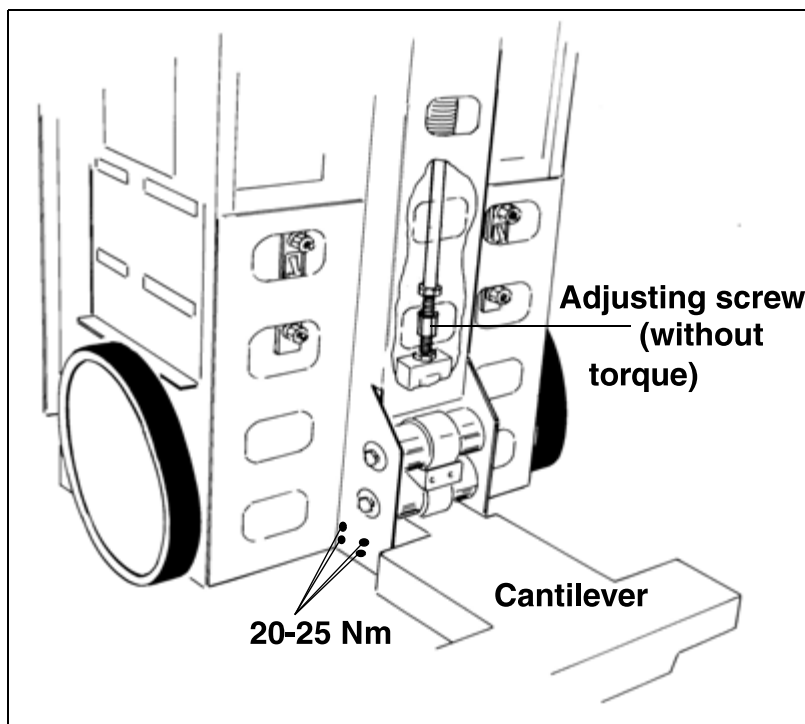

Fig. 11: Adjusting screw and cantilever attachment
- Verify that the lock nuts on the adjusting screw are properly seated (Fig. 11 / p. 45).
- Verify that the base attachment in the chassis is secure (Fig. 11 / p. 45).